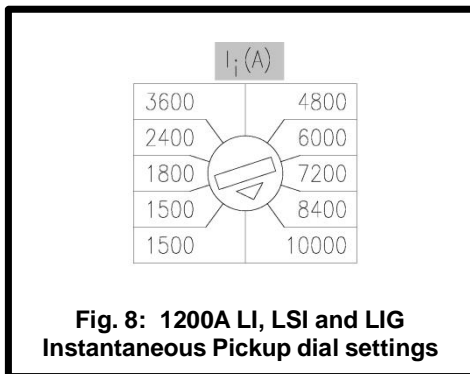
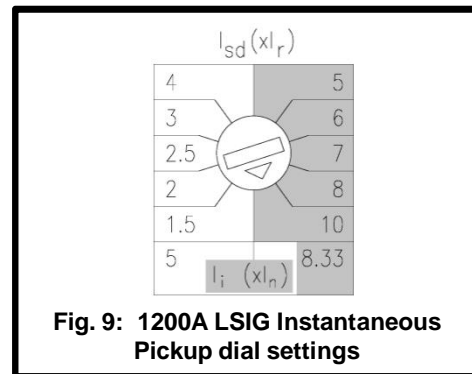

Fig. 8: 1200A LI, LSI and LIG Instantaneous Pickup dial settings
Fig. 9: 1200A LSIg Instantaneous Pickup dial settings
All model types have an adjustable Instantaneous Pickup setting. This adjustment sets the Instantaneous Overcurrent Pickup of the circuit breaker. For LI, LSI, and LIG breakers (see Fig. 8), there are ten (10) Instantaneous Pickup settings that are displayed in Amps. For LSIg breakers (see Fig. 9), there are two Instantaneous Pickup settings which are selected based on the Short Time Pickup setting. These two settings are a multiple of the maximum Frame Rating (I_n). As shown in Fig. 9, the Short Time Pickup settings on the left select an Instantaneous Pickup of $5 \times I_n$ and the Short Time Pickup settings on the right select an Instantaneous Pickup of $8.33 \times I_n$.